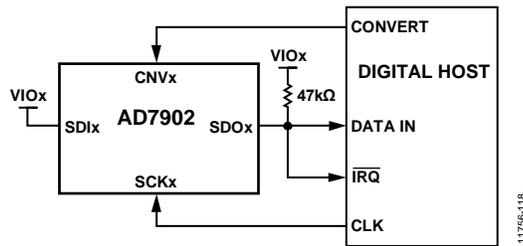
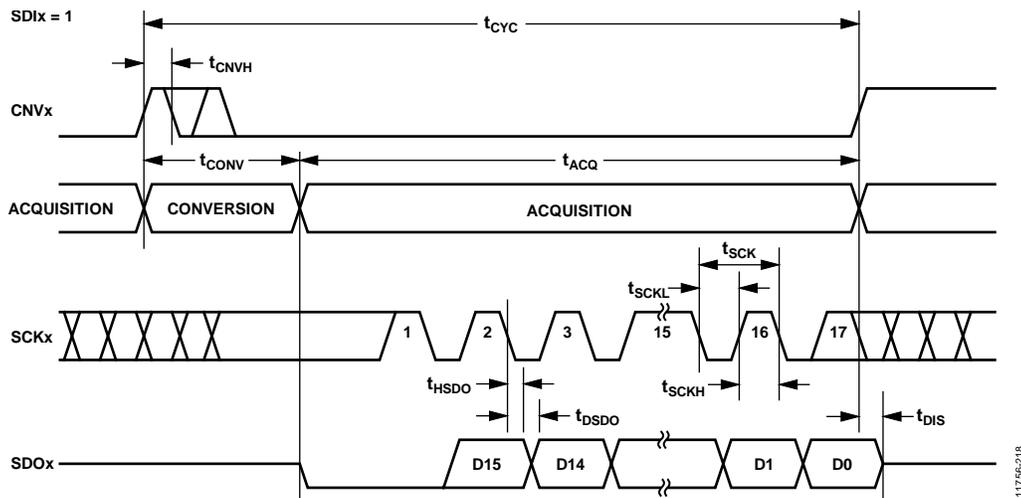
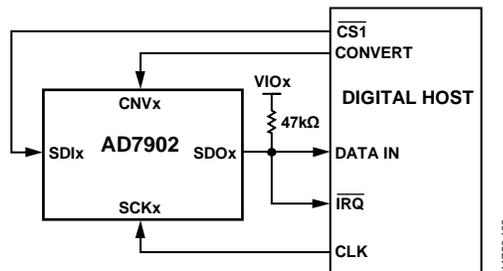
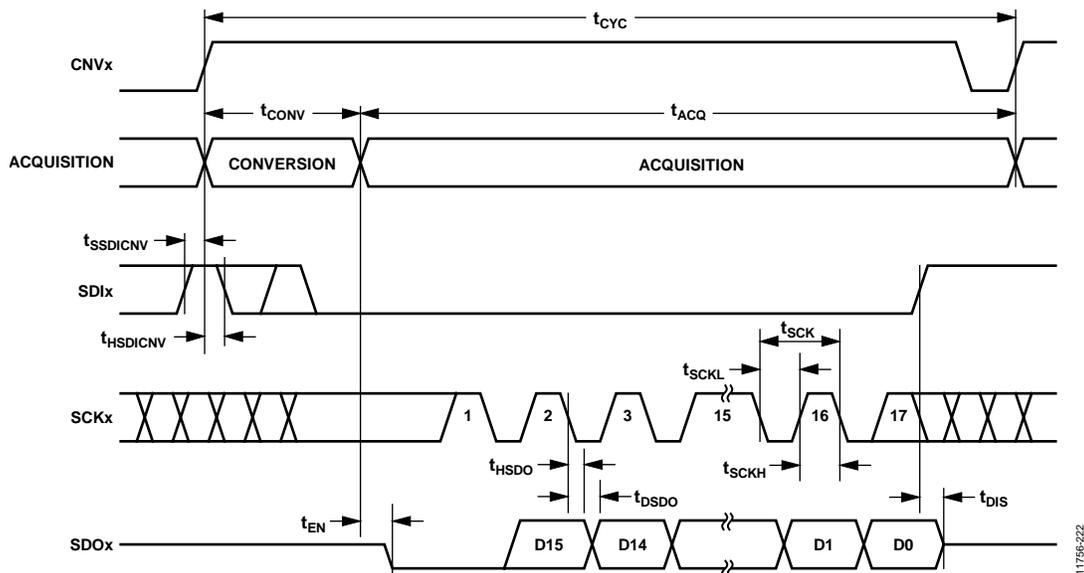

Figure 40.  $\overline{CS}$  Mode, 3-Wire Interface with a Busy Indicator Connection Diagram ( $\overline{SDIx}$  High)
Figure 41.  $\overline{CS}$  Mode, 3-Wire Interface with a Busy Indicator Serial Interface Timing ( $\overline{SDIx}$  High)
Figure 44.  $\overline{CS}$  Mode, 4-Wire Interface with a Busy Indicator Connection Diagram
Figure 45.  $\overline{CS}$  Mode, 4-Wire Interface with a Busy Indicator Serial Interface Timing
- In  $\overline{CS}$  mode when CNVx or SDIx is low when the ADC conversion ends (see Figure 41 and Figure 45).
The connection diagram is shown in Figure 40, and the corresponding timing is shown in Figure 41.
The connection diagram is shown in Figure 44, and the corresponding timing is given in Figure 45.